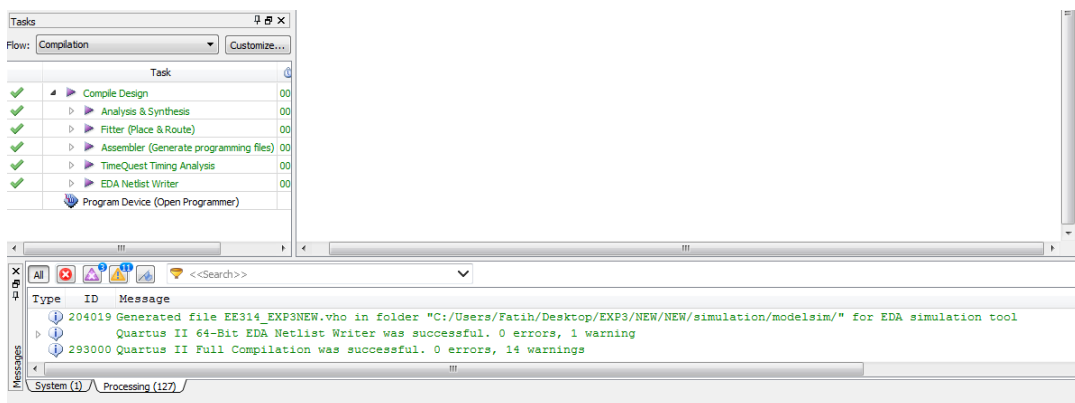

Fig. 9: Compilation result
- E.1) Run the compiler selecting **Processing > Start Compilation** or click  icon. You are supposed to save your project before compiling. As the compilation is continuing, the progress is reported at the left of the schematic. When the compilation finishes, compilation report is produced. A tab showing the report is opened automatically and you can close it. To open it whenever you want, click **Processing>Compilation Report**. There are several messages in the message window. When compilation becomes unsuccessful, appropriate messages will be given in there. If everything goes fine, the interface looks like Fig. 9.